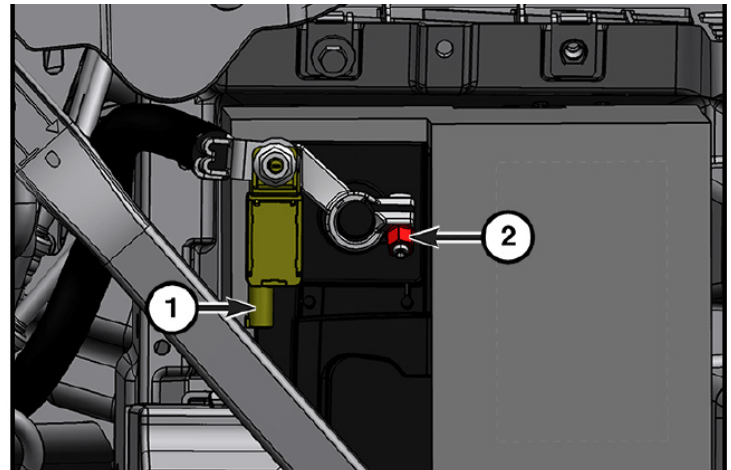

Figure 1
**1. Disconnect the IBS sensor connection from sensor on the negative battery terminal. (Figure 1, #1)**
**2. Using a 10mm socket wrench, disconnect the negative terminal from the battery. (Figure 1, #2)**